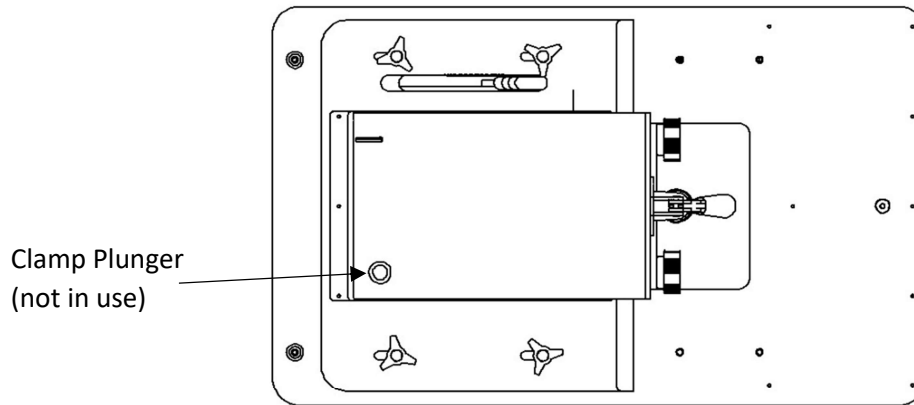

Figure 14: Quick Access Tools
- NOTE: Place the unused clamp plunger into the threaded hole on the back left side of the shroud (near drill motor). This is a designated quick access hole for the plunger. See Figure 14.**